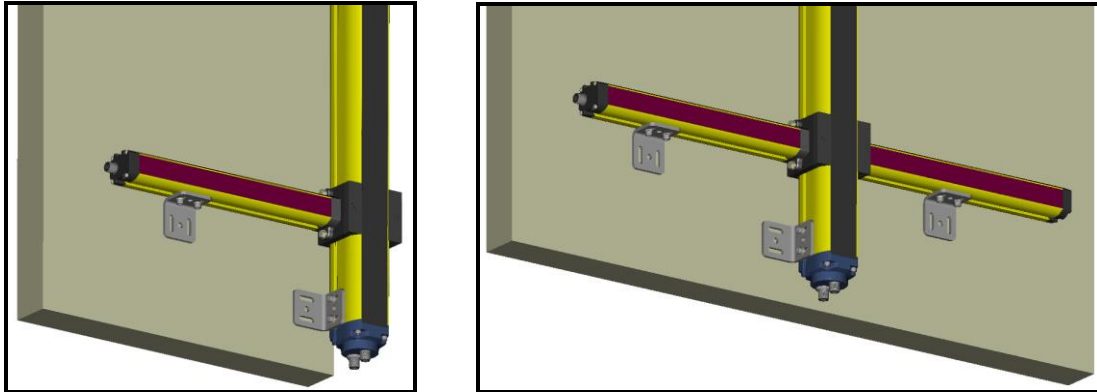

Figure 27
- In critical applications due to the presence of strong vibrations, the arms have to be fixed using the specific fixing brackets (Figure 27). The Muting arms can be adjusted vertically according to the application and to the connecting cable lengths (typical range is 14 cm).
In presence of strong vibrations fixing brackets (see paragraph 4.1) for the Muting arms mounting are compulsory (Figure 27), which are optional in normal working conditions.